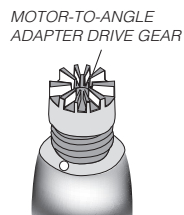

FIG. 1
- For the Titan 3 or Titan T systems thread angle onto motor-to-angle adapter (FIG. 1), Star Titan 3 Part #264073 or Titan T Part #263970, by hand. Seat completely.